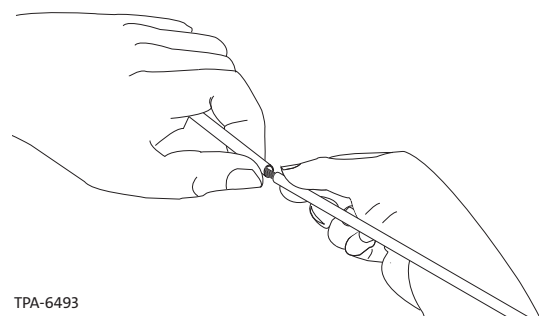

Figure 10
- e. Snap the tube at the scored area (Figure 10). Pull off the severed section of tube. USE CARE TO AVOID DAMAGING THE FIBERS.